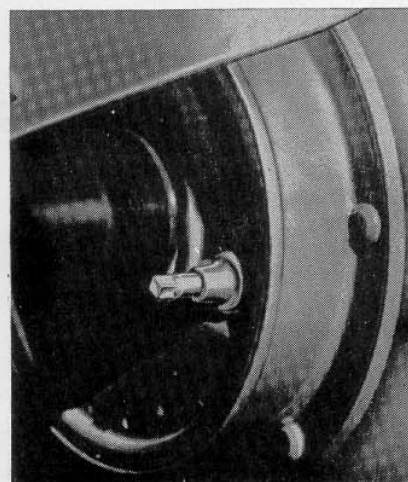

Fig. FO72—Brake adjuster stem on models 2N-9N.
91. To adjust brake shoes, jack up rear wheels and turn adjusting stem shown in Fig. FO72 clockwise, until wheel no longer can be turned by hand and then back off adjusting stem until rear wheel again turns freely. Adjust both brakes equally.